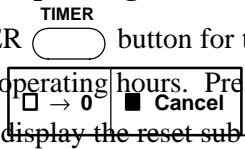

Figure 6-4. Reset Hours
**Reset the Operating Hours:** Press and hold down the **TIMER** button for two seconds to display the lamp operating hours. Press the **RESET** button to display the reset sub-menu (Figure 6-4).